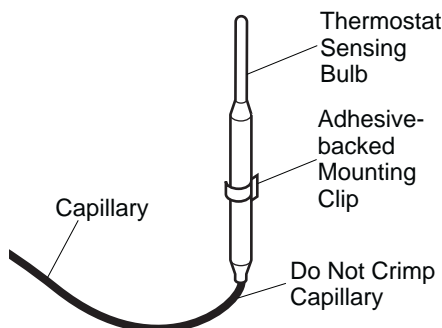

Figure 33 - Positioning the Thermostat Sensing Bulb in the Vertical Position with the Capillary at the Bottom
4. The mounting clip must be a minimum of 3" from bottom of fireplace to prevent crimping of capillary. Once you have decided on a location, clean the area thoroughly. Remove the paper backing from the adhesive on back of mounting clip. Press the clip into the new location so that the thermostat sensing bulb will be positioned vertically with the capillary at the bottom (see Figure 33). Slide the thermostat sensing bulb into the clip.